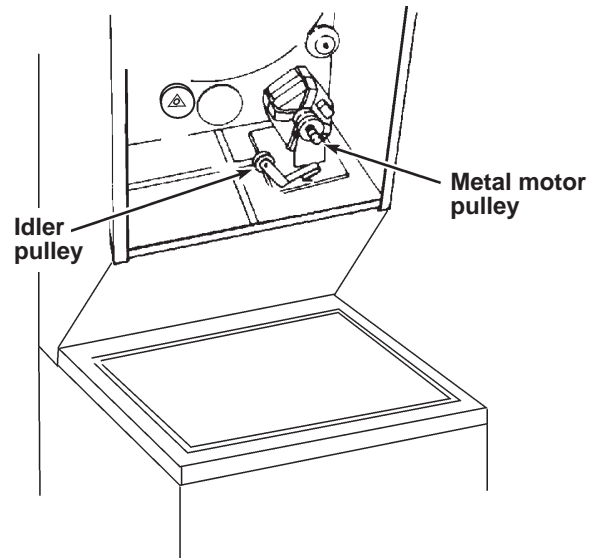

Figure 7
1. If belt is not broken, remove belt from metal motor pulley. See Figure 7.